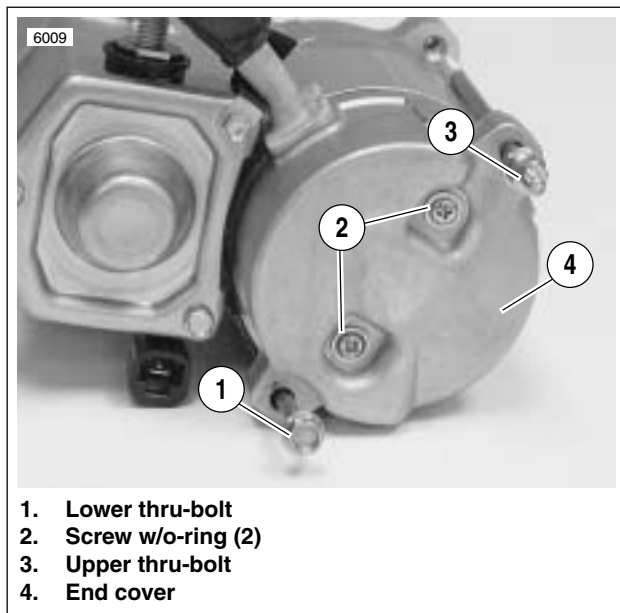

Figure 5-17. Removing the Thru-Bolts
2. See Figure 5-17. Remove both thru-bolts (1, 3).
3. Remove both end cover screws with o-rings (2) and end cover (4).